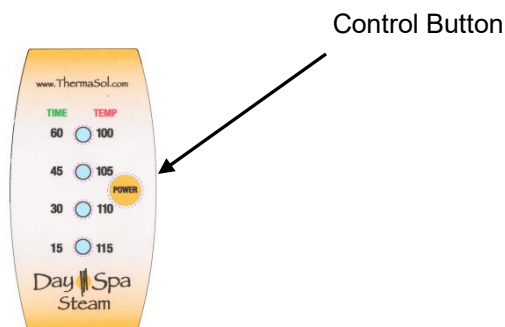

Figure 7
1. **Starting Your Steam Bath.** Press the “Control Button” momentarily to activate your steam bath session. Your control will come from the factor with a default setting of 60 minutes at 100°F (to change these settings move to steps 2 and 3) once the button is pressed you will see a green LED appear indicating the time to be set, four seconds will pass and a red LED will appear indicating the temperature to be set. **(Figure 7)**